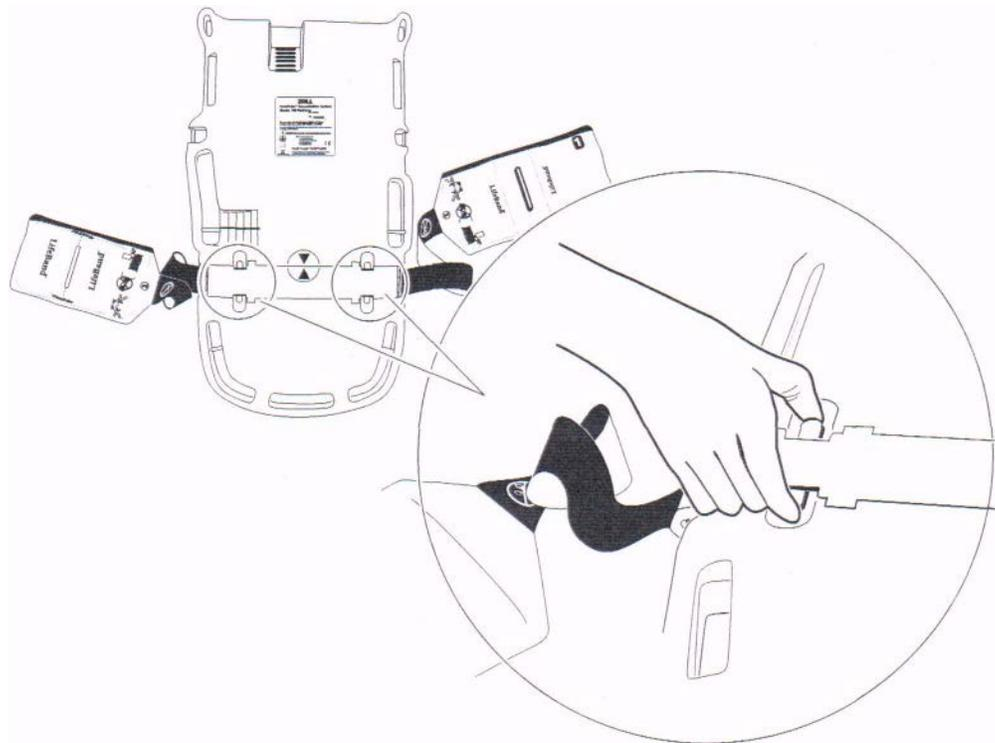

Figure 2-6 Pinching the Locking Tabs of the LifeBand® CCA
- Using both hands, pinch together the locking tabs of the LifeBand cover plate and firmly pull the plate straight up and away from the AutoPulse Platform (see Figure 2-6).